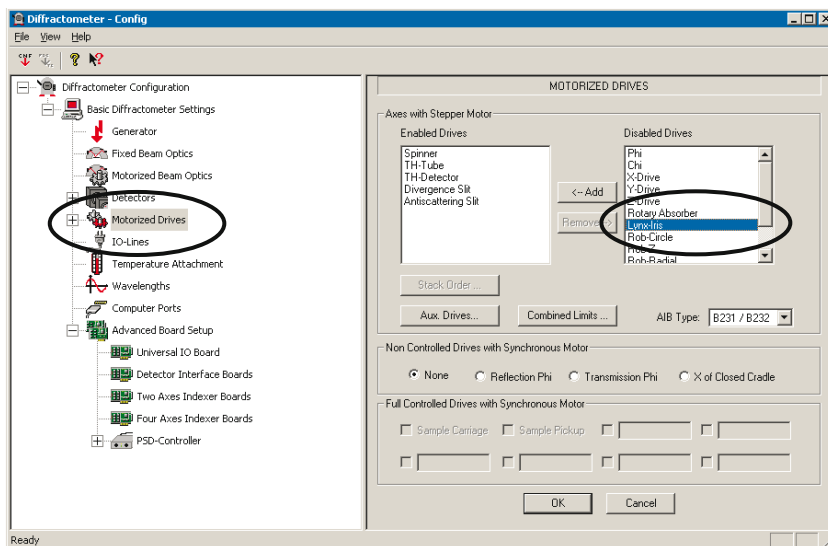

Figure 7.11 Motorized Drives > Define Lynx Iris
1. Within the **Motorized Drives** section select **Lynx Iris** in the **Disabled Drives** box. Click on **Add** to move the device to the **Enabled Drives** box (see Figure 7.11).